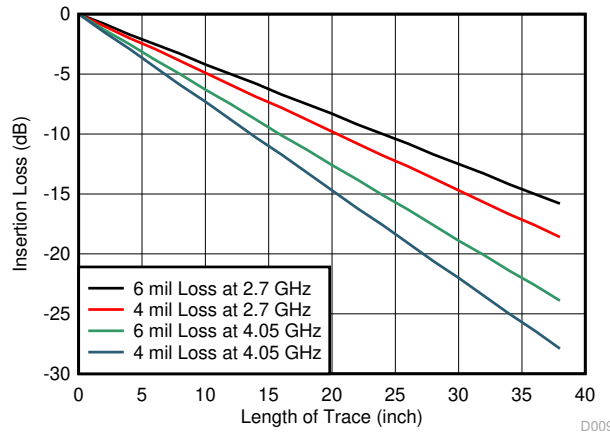

図 8-5. Insertion Loss of FR4 PCB Traces
- Determine the loss profile on the DisplayPort input (A) and output (B) channels. See Figure 8-5 for 6mil trace insertion loss.
- Determine the loss profile on the DP input (C) and output (D) channels and cables. See Figure 8-5 for 6mil trace insertion loss.